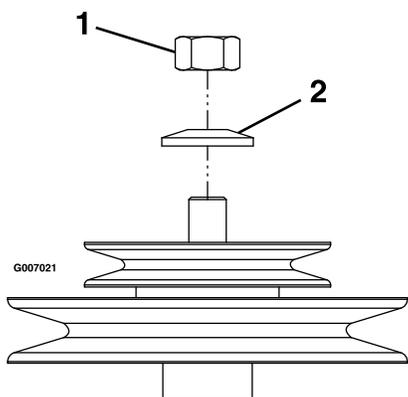

Figure 12
- E. Install the double sheave onto the right spindle shaft. Install the spring disc washer and nut. Make sure that the spring disc washer cone is installed towards nut (see Figure 12). Torque the sheave nut to 140-145 ft-lb (190–197 N-m).